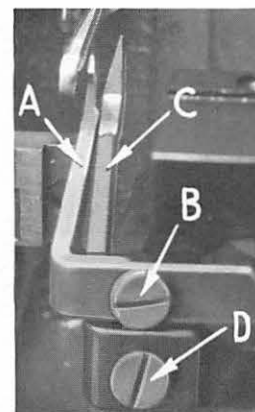

Fig. 5
Set rear needle guard (A, Fig. 5) as high as possible, without interfering with either lower spreader or movement of lower knife holder, but still in position to deflect needle forward .002 to .004 inch. Screw (B) is used to set the rear needle guard. Make sure there is no interference between the rear needle guard and lower spreader.
Assemble front needle guard (C, Fig. 5). When lower spreader is springing needle off backguard, set the front needle guard as close as possible to needles without touching. Screw (D) is used to adjust and set front needle guard. After this setting, make sure there is no interference between the needle guards and differential feed dog.